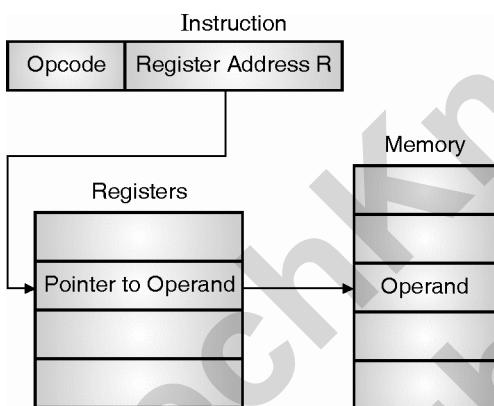

Fig. 10.3.5 : Register Indirect addressing mode
- Fig. 10.3.5 shows the structure of the instruction and the way to access the operand for the register indirect addressing mode.
- As seen in Fig. 10.3.5, the instruction contains a register address field that selects the register that has the memory address of the operand to be accessed.